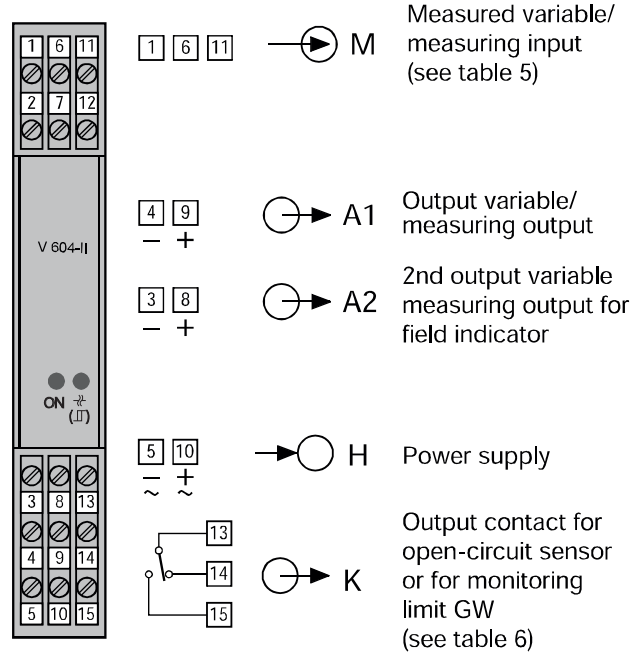

Fig.8 . Terminal allocation.
The while pressing the latch (18) in the base of the device (Fig. 8, left), pull out the transmitter securing brackets (10).
To return the brackets to their original positions, the latch (19) in the base of the device has to be depressed before applying pressure to the securing brackets (10) (see Fig. 8, right).